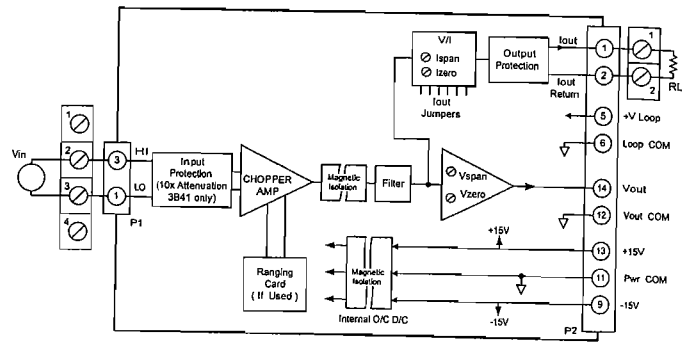

Figure 2.1.11.1 3B40 and 3B41 Functional Block Diagram
1. Connect model 3B40 (3B41) as shown in Figure 2.1.11.1 with  $R_L = 250\Omega$ .